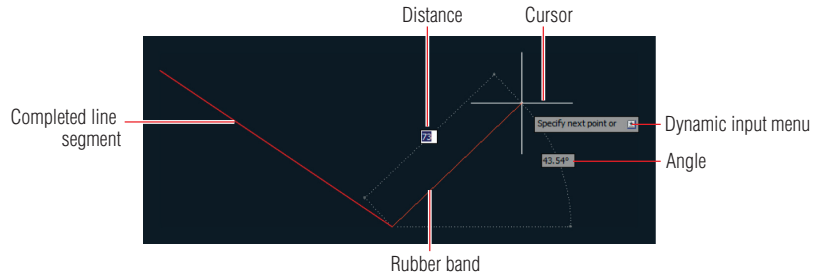

FIGURE 2.7 Drawing a line
3. Type L (for LINE) and press Enter. Click two arbitrary points to define a line object (see Figure 2.7).